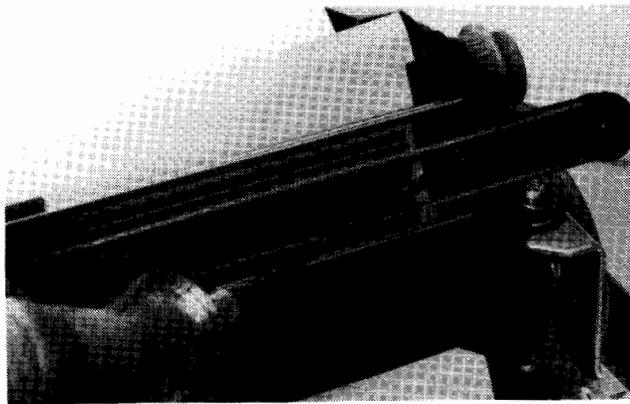

Figure 6-5. Adjusting Print-Head Drive Belt
- (1) Insert a $\frac{7}{64}$ -inch ballpoint hex screwdriver into the cap screw at the right side of the printer. (See figure 6-5.)
- (2) Turn the screwdriver clockwise $\frac{1}{6}$ of a revolution.
- (3) Repeat steps c and d.
- (4) If the belt is not yet too tight, repeat steps (1) through (3).